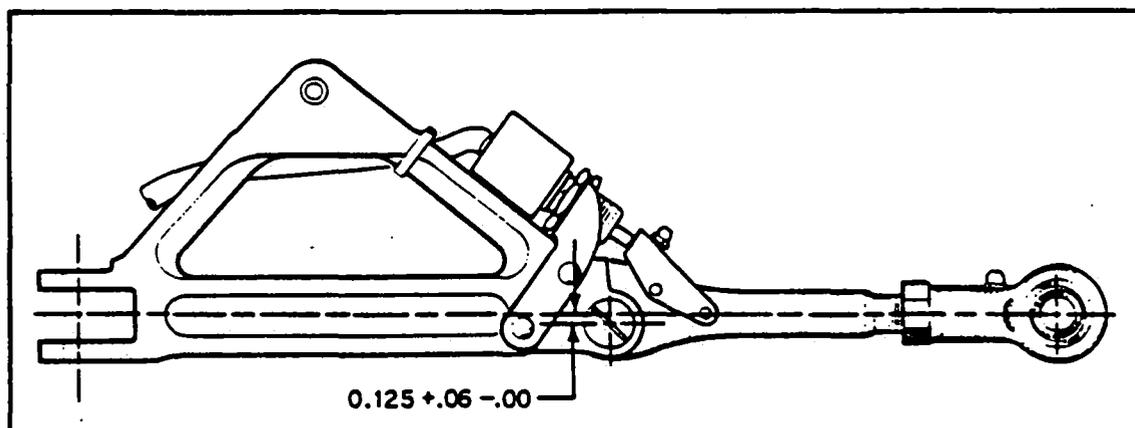

Figure 7-8a. Main Gear Side Brace Link Travel
7. Check side brace link through center travel by attaching the upper and lower links, setting them on a surface table, and ascertaining that when the stop surfaces of the two links touch, linkage is not more than 0.125 of an inch $+0.06/-0.00$ through center. Should the distance exceed the required through center travel and bolt and bushings are tight, replace one or both links. (Refer to Figure 7-8A.)